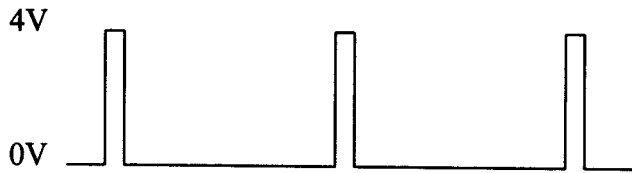

Figure 4.1
4. On the oscilloscope there should be a waveform similar to Figure 4.1 with a frequency of 15.75KHz
4. On the oscilloscope there should be a waveform similar to Figure 4.1 with a frequency of 60Hz.